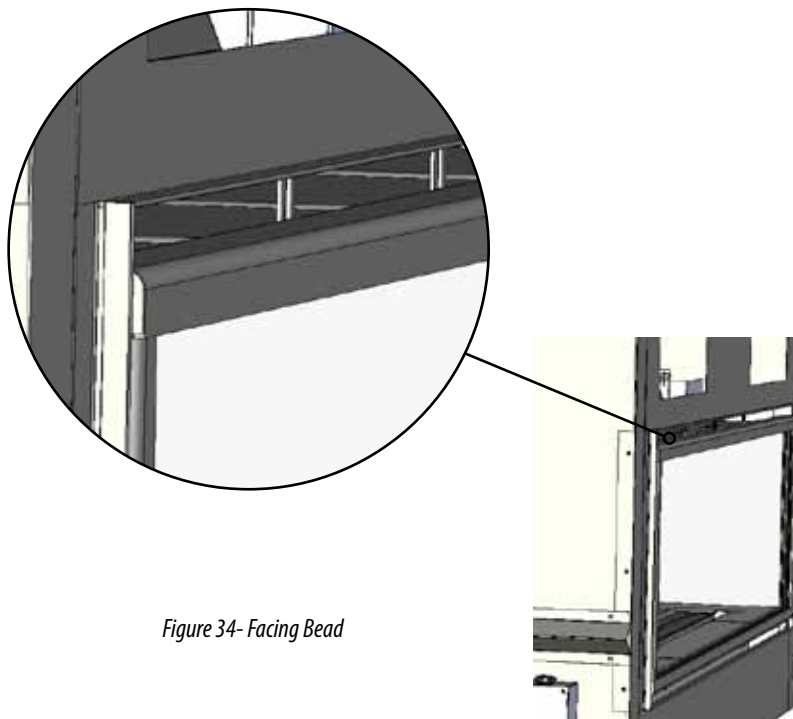

Figure 34- Facing Bead
- The Halcyon was designed to be faced with approved ½" thick, non-combustible facing. This non-combustible facing can be installed up to the Facing Bead which surrounds the opening into which the glass panel is set. *Figure 34* shows a close-up view of the Facing Bead over which no material of any kind may be applied.